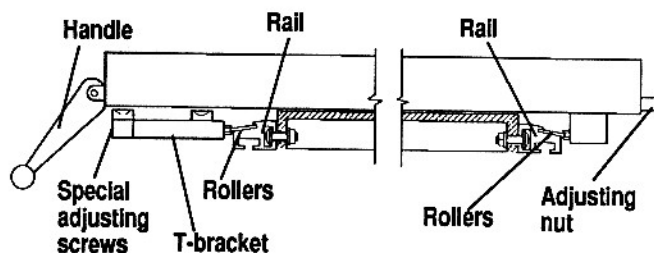

Fig. C-20
32. Refer to Fig. C-20. With the locking handle in the up position, place the fence on the table.